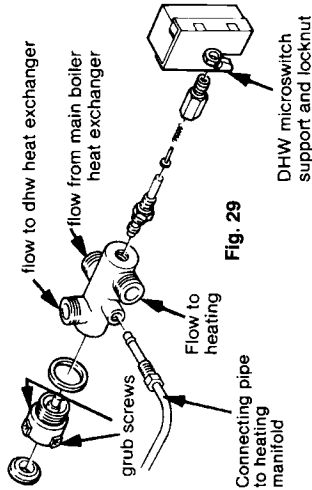

Fig. 29
- 8.16.4 Unscrew locknut and remove micro switch (fig. 29).